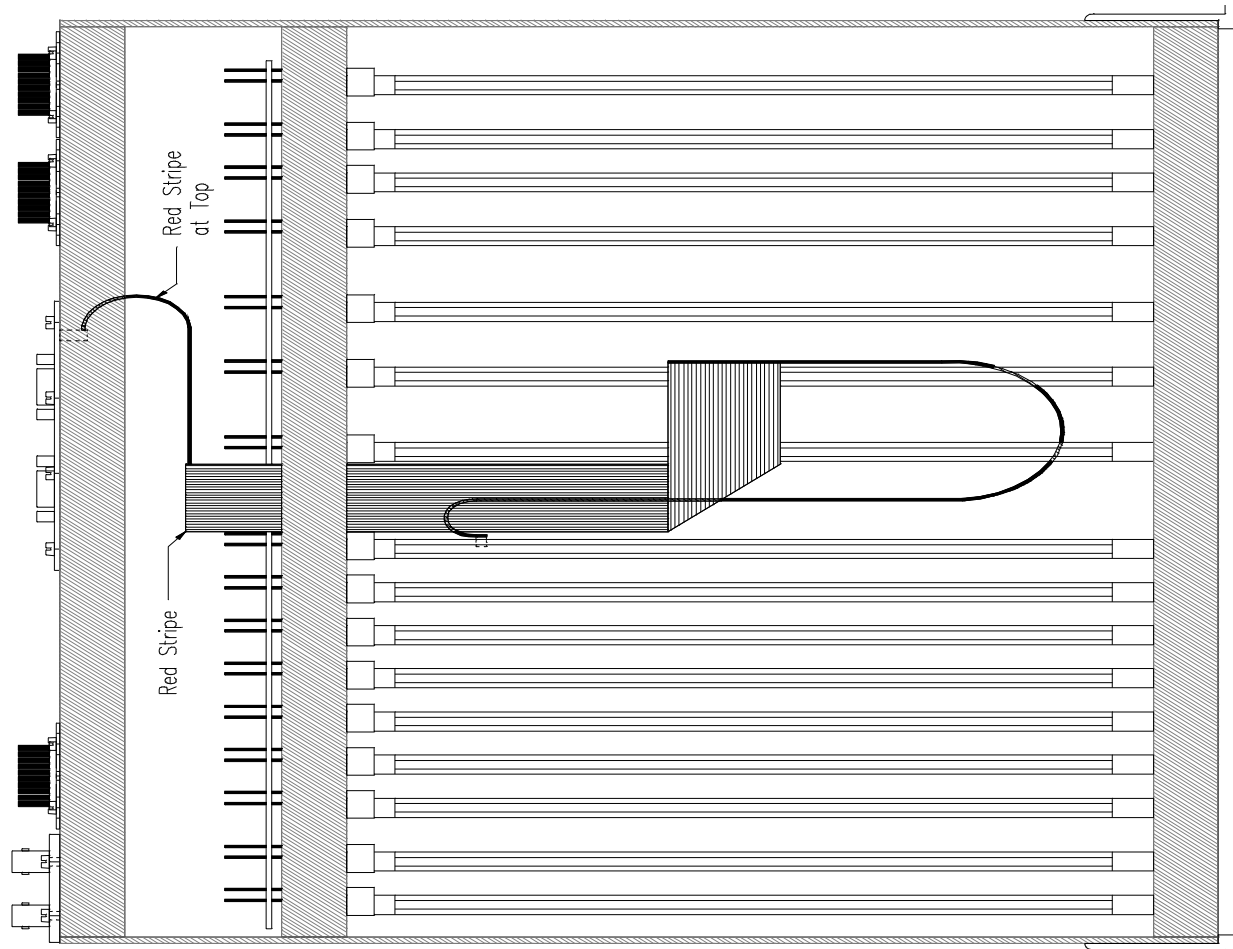

Figure 1 - 19003 Cable Routing (Top View)
- Route cable (19003) as shown in Figure 1. Starting at **P13** of the SRCP2, this cable goes outside the top of the Servo Rack and re-enters the rack just to the right of the Servo Control 2 (100828) slot. This routing is to ensure that the Supervisor board in the Framing board (100829) slot can be withdrawn from the servo rack without disconnecting or entangling its associated cables.